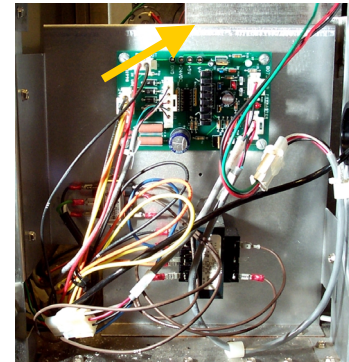

Figure 2: The component board on pre 7-99 SinBaD II units extends only an inch or more above the driver board. These units should have the shield installed.
- Inspect component board holding the driver board, transformer, etc. See Fig 2. The component boards in units built before 7/99 extend only an inch or more above the driver board.